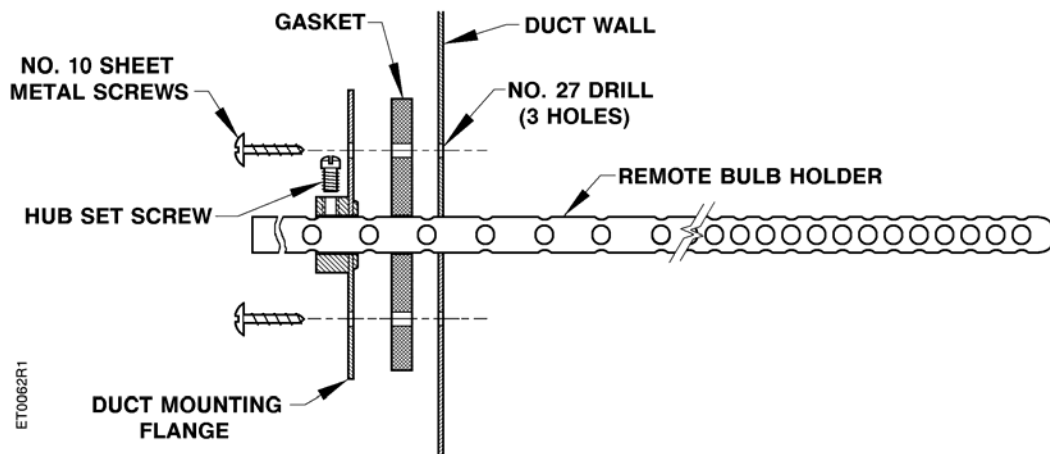

Figure 1. Remote Bulb Holder Kit 808-517.
3. Place the gasket against the duct. Align the holes in the gasket and duct mounting flange with the holes in the duct. Attach with sheet metal screws provided in the kit. See Figure 1.